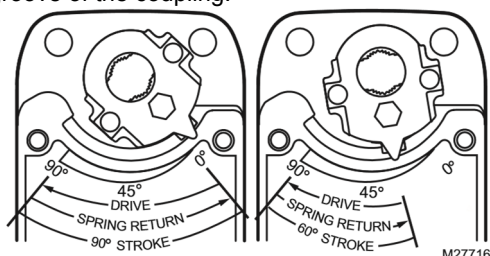

Fig. 5. Stroke reduction.
3. Rotate the coupling to the desired position, aligning it based on the stroke labeling. See Fig. 5.
(See Fig. 5)